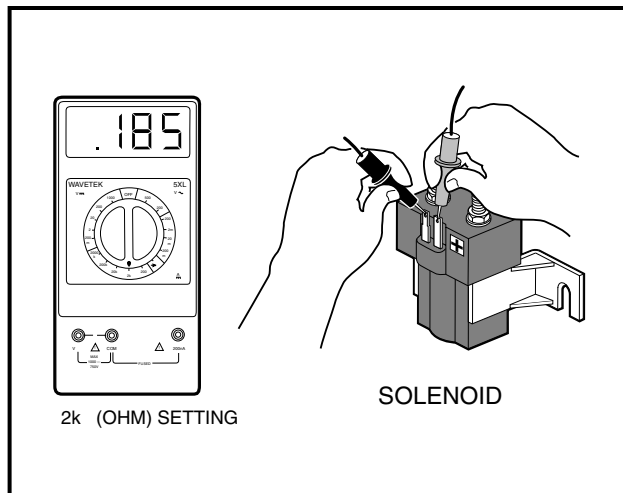

Figure 11-9 Activating Coil Test
3. Place red (+) probe of the multimeter on the positive (+) solenoid terminal. Place the black (–) probe on the other small solenoid terminal. A reading of 180 to 190 Ω (ohms) should be obtained (**Figure 11-9, Page 11-20**). If not, replace the solenoid.